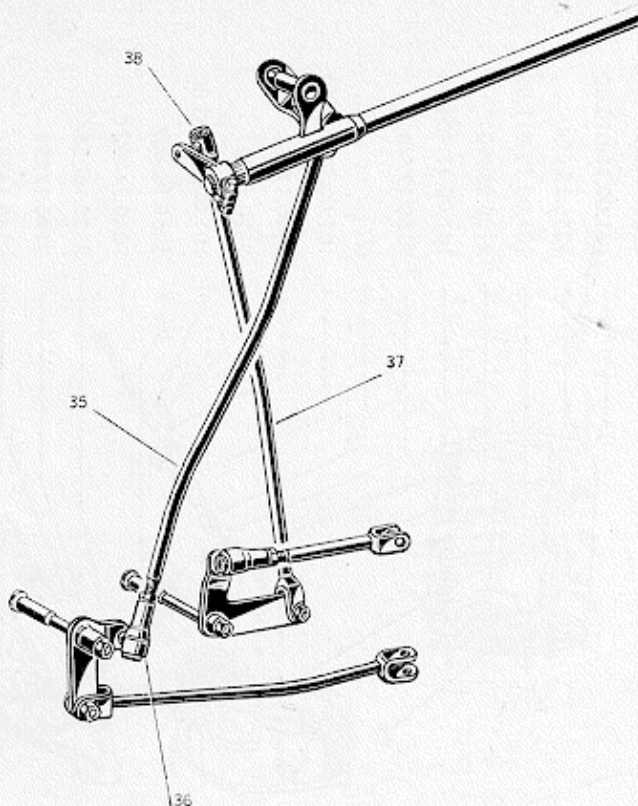

Fig. 27 - External gearbox controls
a) **Inspecting the gear selection control** (See Fig. 27)
(See Fig. 27).